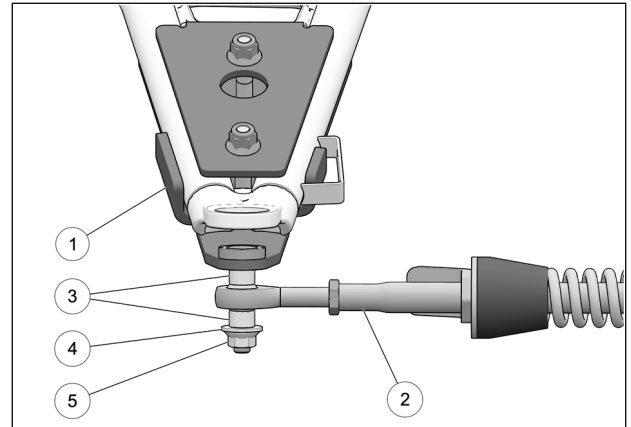

Fig. 15
7. Attach the stabilizing rod (2) to the anchor bracket (1), using the two spacer bushings (3), flat washer (4) and nut (5). Torque to 70 N•m [52 lb•ft]. Refer to Fig. 15